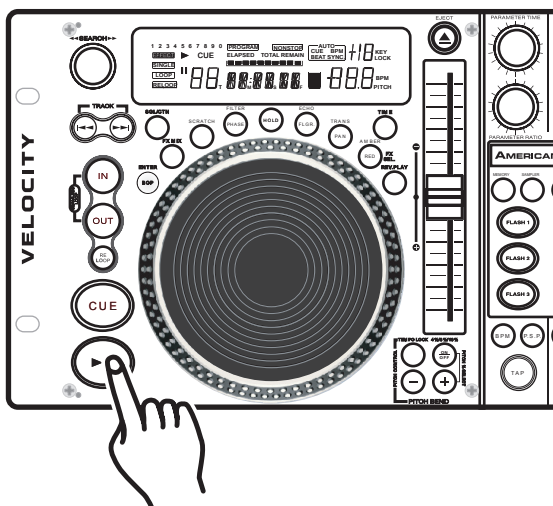

Figure 32
- 2) Press the *IN BUTTON (32)* (Figure 32) at the point you want your BOP to take place.